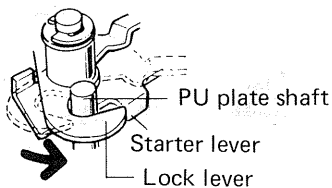

Fig. 5-1
3. Rotation of the operations plate causes the starter lever to move, resulting in the lock lever engaging the PU plate shaft (see Fig. 5-1).